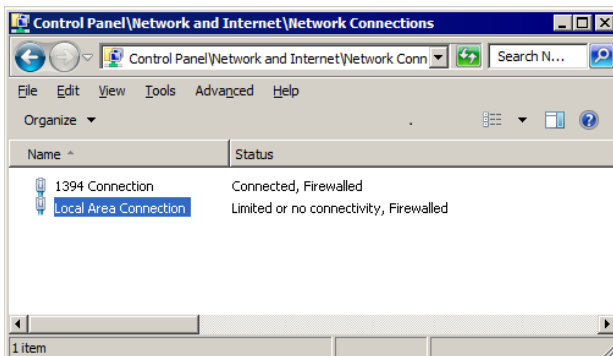

Figure 10 Limited Connectivity
- 3 Once connected, the laptop Local Area Connection should report limited connectivity using an Automatic Private IP Address. Confirm by opening your network connections as shown in Figure 10.